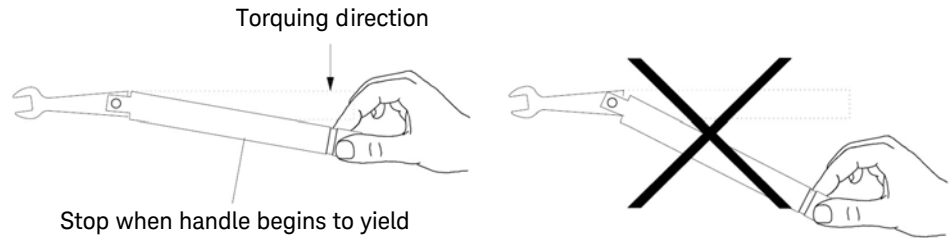

Figure 2-2 Using the Torque Wrench
- 4 Hold the torque wrench lightly, at the end of the handle only (beyond the groove). Refer to Figure 2-2 below.
- 5 Apply downward force perpendicular to the wrench handle. Refer to Figure 2-2. This applies torque to the connection through the wrench.
- 6 Tighten the connection just to the torque wrench break point. The wrench handle gives way at its internal pivot point. Refer to Figure 2-2. Do not tighten the connection further.